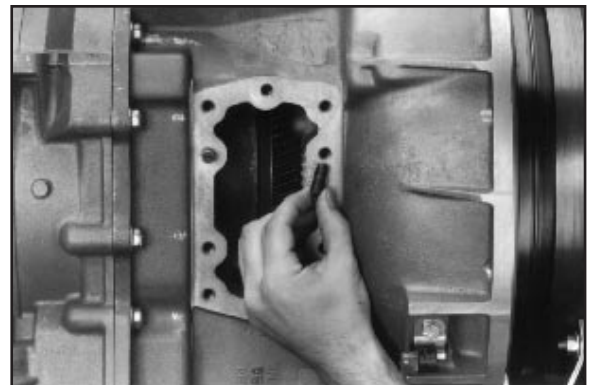

Fig. 4
4. Using a screwdriver, install the guide pins until they bottom out (**Fig. 4**) (Refer to Page 34 for 269 & 278 Series).